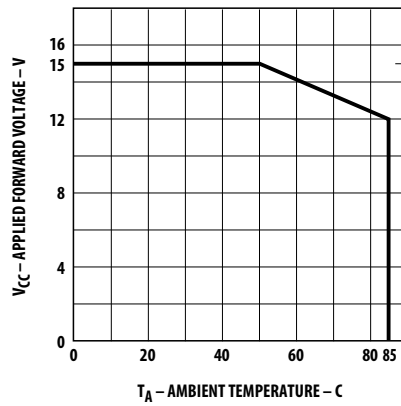

Figure 4. Maximum allowed applied forward voltage vs. ambient temperature  $R\theta_{JA} = 175^{\circ}\text{C}/\text{W}$ . 12 volt devices.
3. Derate from  $T_A = 50^\circ\text{C}$  at  $0.086 \text{ V}/^\circ\text{C}$ , see Figure 4.